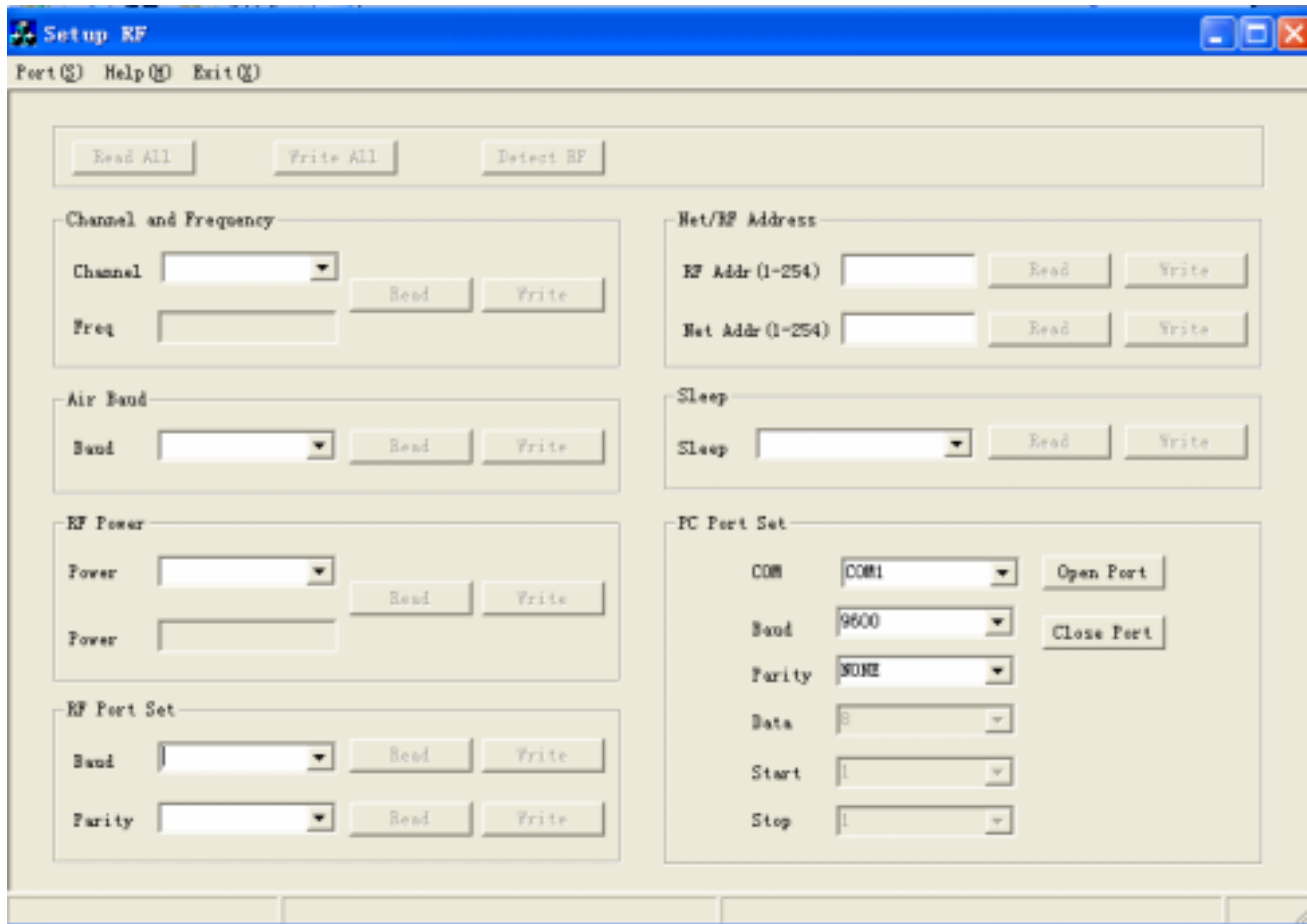

Figure 4: Configuration Software Screen
- (1) Connecting the RF module to the serial port of Computer.
- (2) Power the RF module. Be careful to the voltage's range and polarity, wrong operation may cause permanent damage to the RF module.
- (3) Open RF module configuration software we provide. It need no installation, just double click the icon to run the software(See Figure 4).